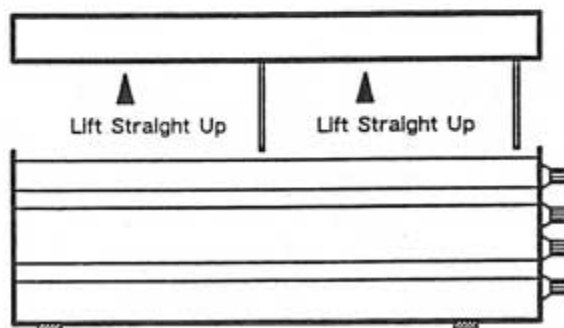

Figure 8-16. Removing the Model PRT73 Top Cover
2. Set the Model PRT73 on a static-free work surface. Remove the top cover by removing four screws from bottom of instrument. See Figure 8-16.